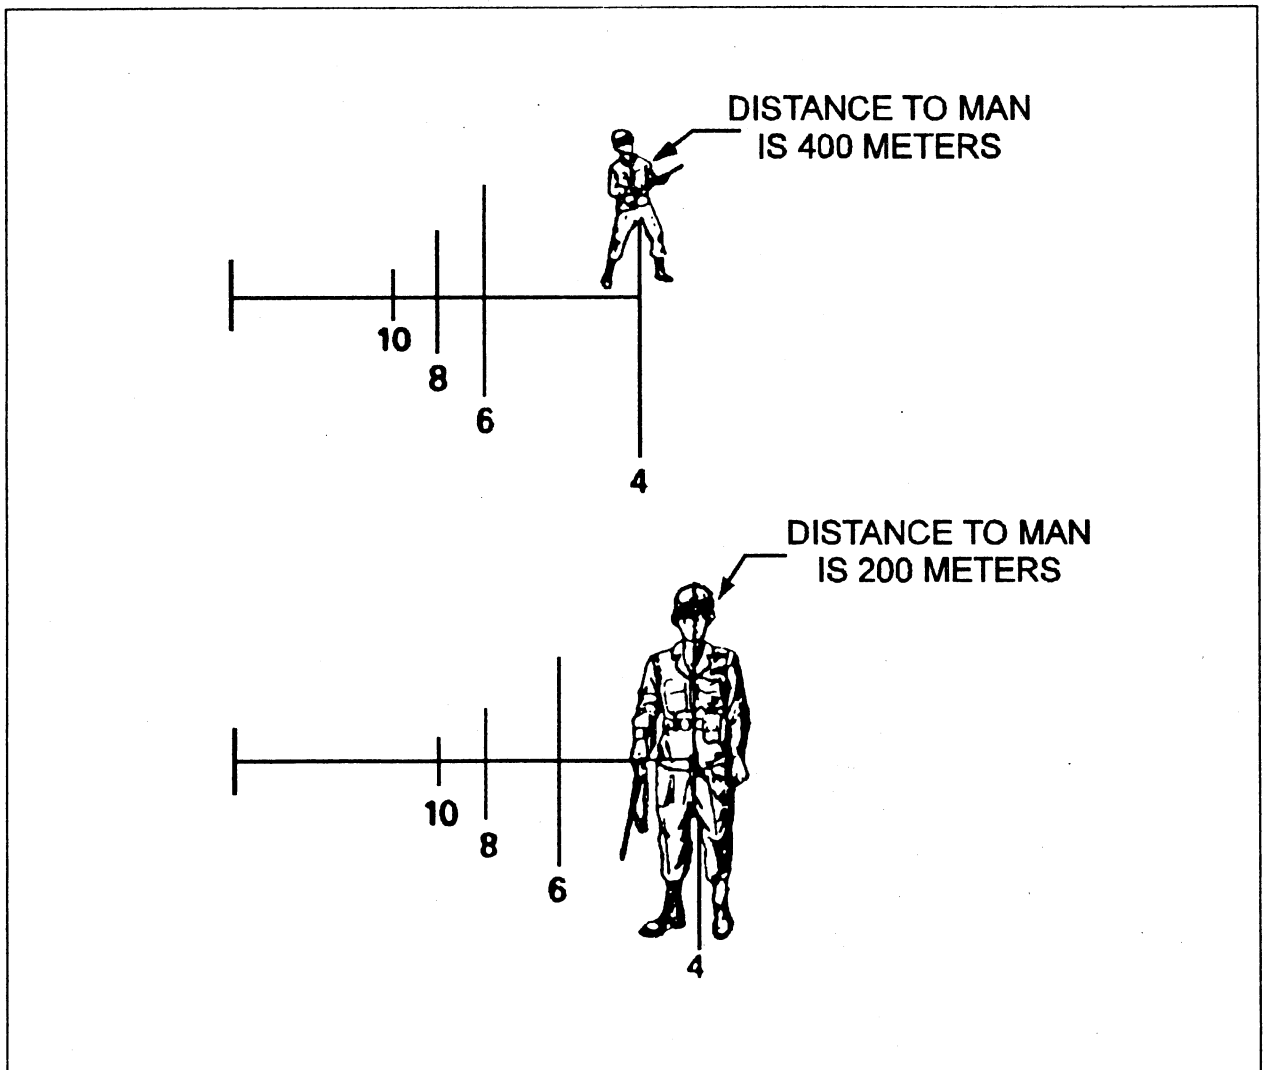

Fig 2-11. Range estimates based on vertical distance.
- (1) **Range estimation scale.** The upper part of the reticle is the range estimation scale. Using this scale, you can make relatively accurate range estimates based on the size of objects both horizontally and vertically. To estimate range with the range estimation scale, you must superimpose the range scale over the image of the object being used for the estimate, then align the appropriate index line based on the size of the object.
- (a) Range estimates derived from vertical distance. Range estimates derived from vertical distance are based on the vertical height of six feet, or the average height of a man. Look at figure 2-11 and see that the ranges are marked 400, 600, 800, and 1,000 meters, or 4, 6, 8, and 10. At these ranges, the vertical distance is measured from the end of the vertical index line above or below the horizontal line to the horizontal line. For a range of 200 meters, you would measure the distance from the top of the first vertical index line to the bottom of that vertical index line. Additionally, 400 meters could be measured by the top or bottom half of the 400-meter index line, or the total length of the 800-meter index line.